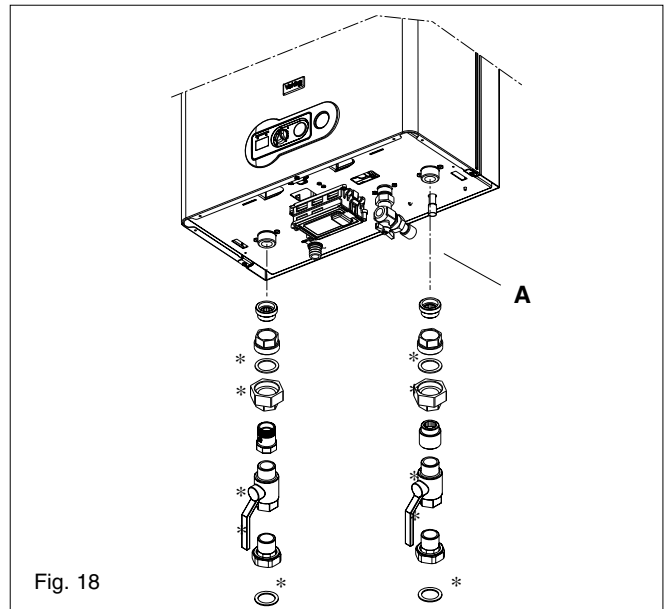

Fig. 18
It will be necessary to hold the valve with one spanner whilst tightening with another; besides, where necessary use a seal (*) fittings to ensure the sealing of the system (fig 18)
4.6.1 GAS (fig. 18)
4.6.2 FLOW & RETURN (fig. 18)
4.6.3 SAFETY VALVE (fig. 18 - A)